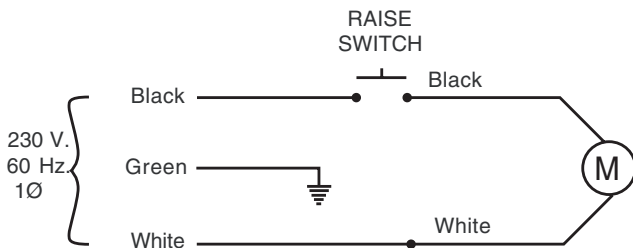

Fig. 18
10. Electrical: Have a certified electrician run 230 volt single phase 60 Hz. power supply to motor, Fig.18 and 19. Size wire for 30 amp. circuit. See Motor Operating Data table.
Use separate circuit for each power unit. Protect each circuit with time delay fuse or circuit breaker: single phase-30 amp.; 3 phase (230v)-15 amp.; 3 phase (460v )-8.75 amp, Fig. 18 and Fig. 21. Wiring must comply with local electrical codes.
Connect supply to wires in box as per Fig. 18. Attach ground wire to screws provided.